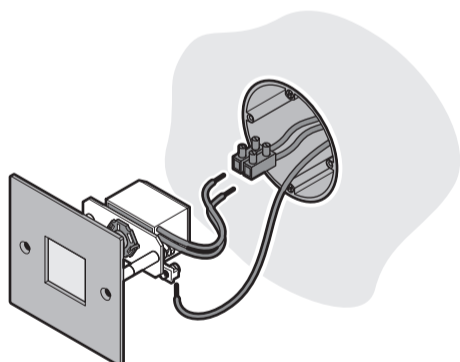

Fig. 2
2. Connect flush fitting wall light with terminal blocks to 230 V supply leads and earth lead (Fig. 2).